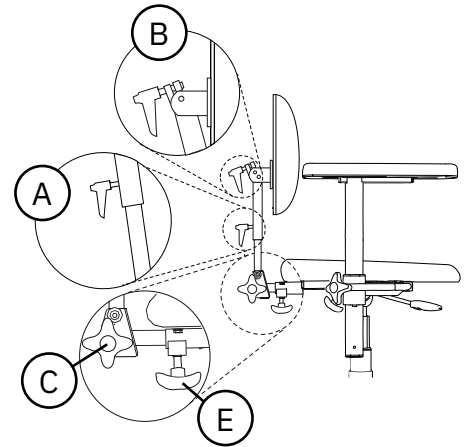

Figure 5.28. Medic backrest mechanism.
Medic can be adjusted in height (A), angle of backrest (B), angle of back recliner (C) and depth (E), see Figure 5.28. The back recliner can be adjusted in the range of 15° forward to 45° backwards.